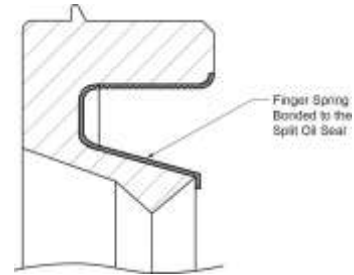
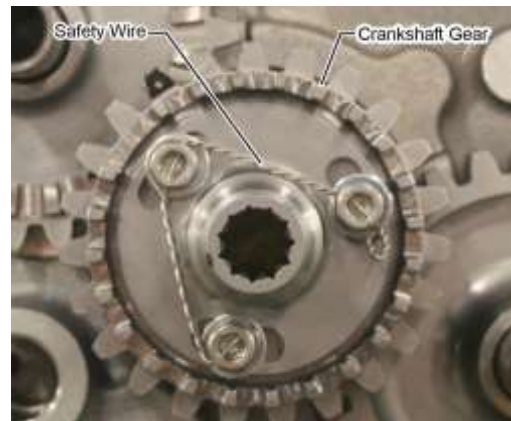

Figure 109
Figure 118
NOTICE: The split oil seal has a finger spring bonded to the seal in the inner groove of the seal lip (Figure 109). Use care not to kink or distort the finger spring when installing the split oil seal on the crankshaft.
- M. Install the Fuel Pump Shaft Drive Indicator Mount (ST-533) on the left crankcase locating dowel and adjacent tapped bolt hole (Figure 109).
- (1) Remove the shaft drive.
- (2) Turn the drive shaft 120°.
- (3) Re-install the shaft drive, screws, washers and torque to 100 in.-lb. (11 Nm).
- (4) Re-check the shaft drive run-out.
- O. Safety wire the screws in the crankshaft trigger gear assembly as shown in Figure 118.